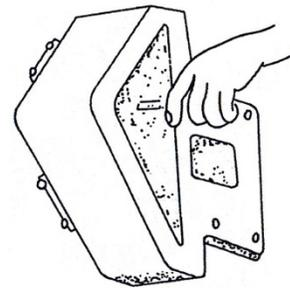

Figure 9-1
4. Remove the three bolts holding the upper blade. (fig. 9-1 and 9-2)